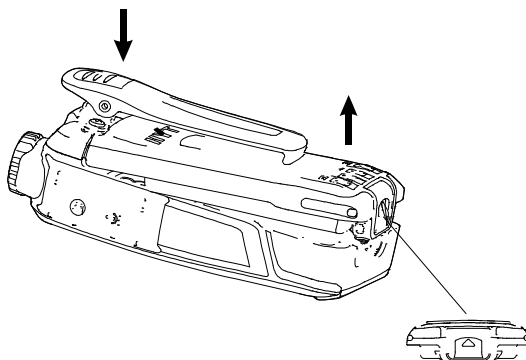

Figure 1
- ① Turn off the radio. Hold the top part of the radio's body, and press the belt clip to make its bottom up. Lift the battery latch in the direction of the arrow by the notch at its bottom, as shown in Figure 1.